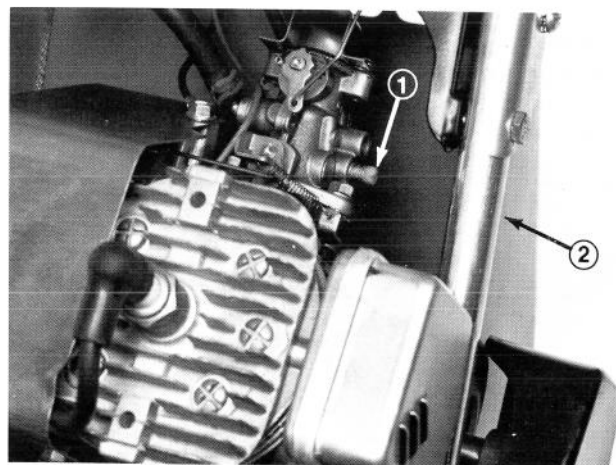

Figure 15
1. Mixture Adjustment Screw (Fig. 15) — Close screw by gently rotating it clockwise until a slight seating resistance is felt. Next, rotate mixture adjusting screw 1-1/4 turns counterclockwise.